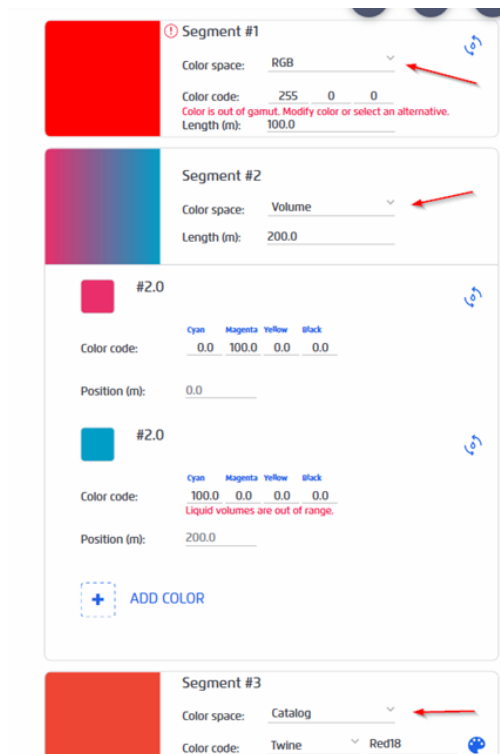

Figure 57 Adding Solid Colors and Gradients
4. Repeat this process as many times as necessary to add as many color segments as you need for your job (Figure 57).